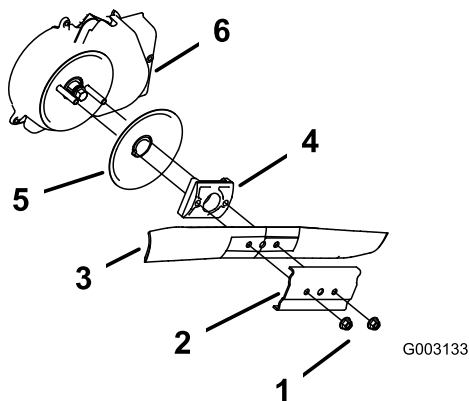

Figure 50
3. Remove the 2 blade nuts and the stiffener (Figure 50).
4. Remove the blade (Figure 50).
5. Remove the blade driver and disk (Figure 50).
6. Remove the blade brake clutch shield (Figure 50).
10. Install the blade and the stiffener that you previously removed (Figure 50).